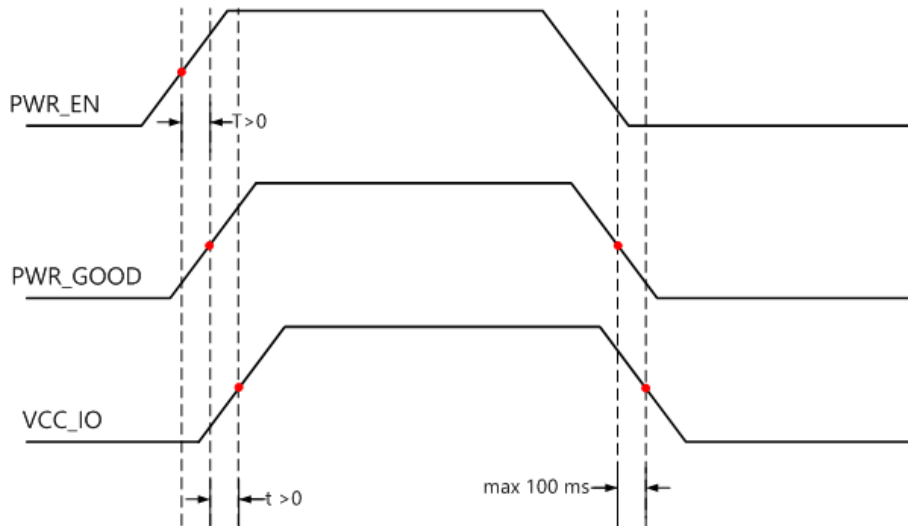

Figure 10: Power-Up Sequence - VCC\_IO in Relation with PWR\_GOOD and PWR\_EN Signals
*Do not power the VCC\_IO pins when PWR\_GOOD and PWR\_EN signals are not active. If the module is not powered, you need to make sure that the VCC\_IO voltages are disabled (for example, by using a switch on the base board, which uses PWR\_GOOD as enable signal). Figure 10 illustrates the VCC\_IO power requirements.*
Do not power the VCC\_IO pins (for example by connecting VCC\_3V3 to VCC\_IO directly) when PWR\_EN is driven low to disable the module. In this case, VCC\_IO needs to be switched off in the manner indicated in Figure 10.